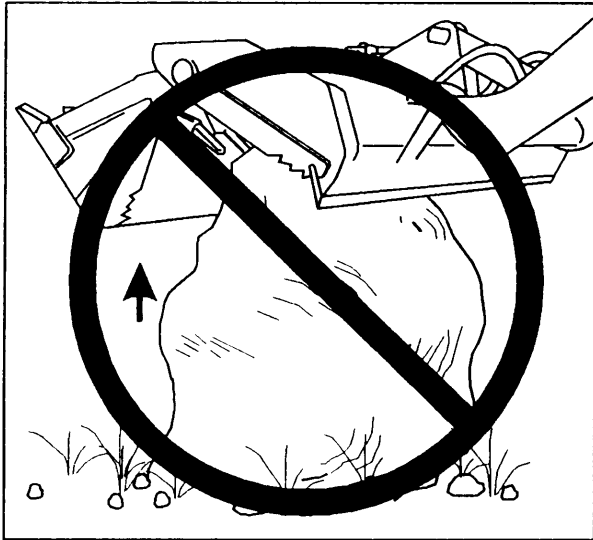

Figure 9-36.-Attempting to pickup objects too large for the clamshell.
**Do NOT** attempt to clamshell objects too large to handle, because this may damage both the bucket and linkage (fig. 9-36).